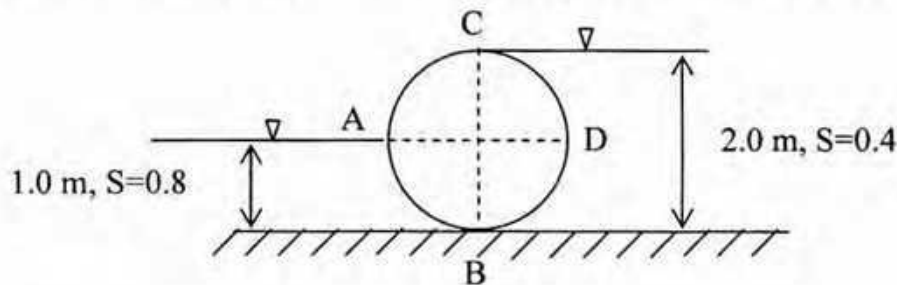

Figure 6
- b. Determine the horizontal and vertical forces acting on the curve surface AB on the cylinder in Figure 6. The cylinder is 1 m long. The diameter of the cylinder is 2.0 m. 7
- c. Determine the horizontal and vertical forces acting on the curve surface CD on the cylinder in Figure 6. 7
- d. What is the net vertical force acting on the cylinder shown in Figure 6, if it weighs 25.0 kN. Neglect friction. 5